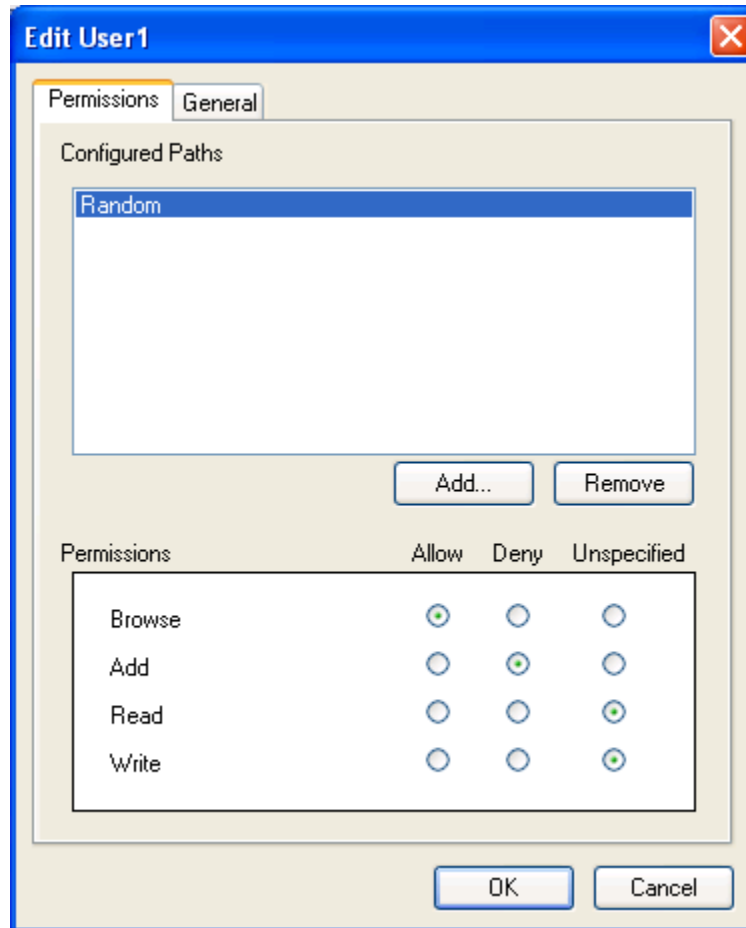

Figure 75 - Edit <Username>: Example
5. The selected path or item will be listed in the **Configured Paths** screen section of the **Edit User** window. Permissions can now be assigned, as in the example depicted in Figure 75.